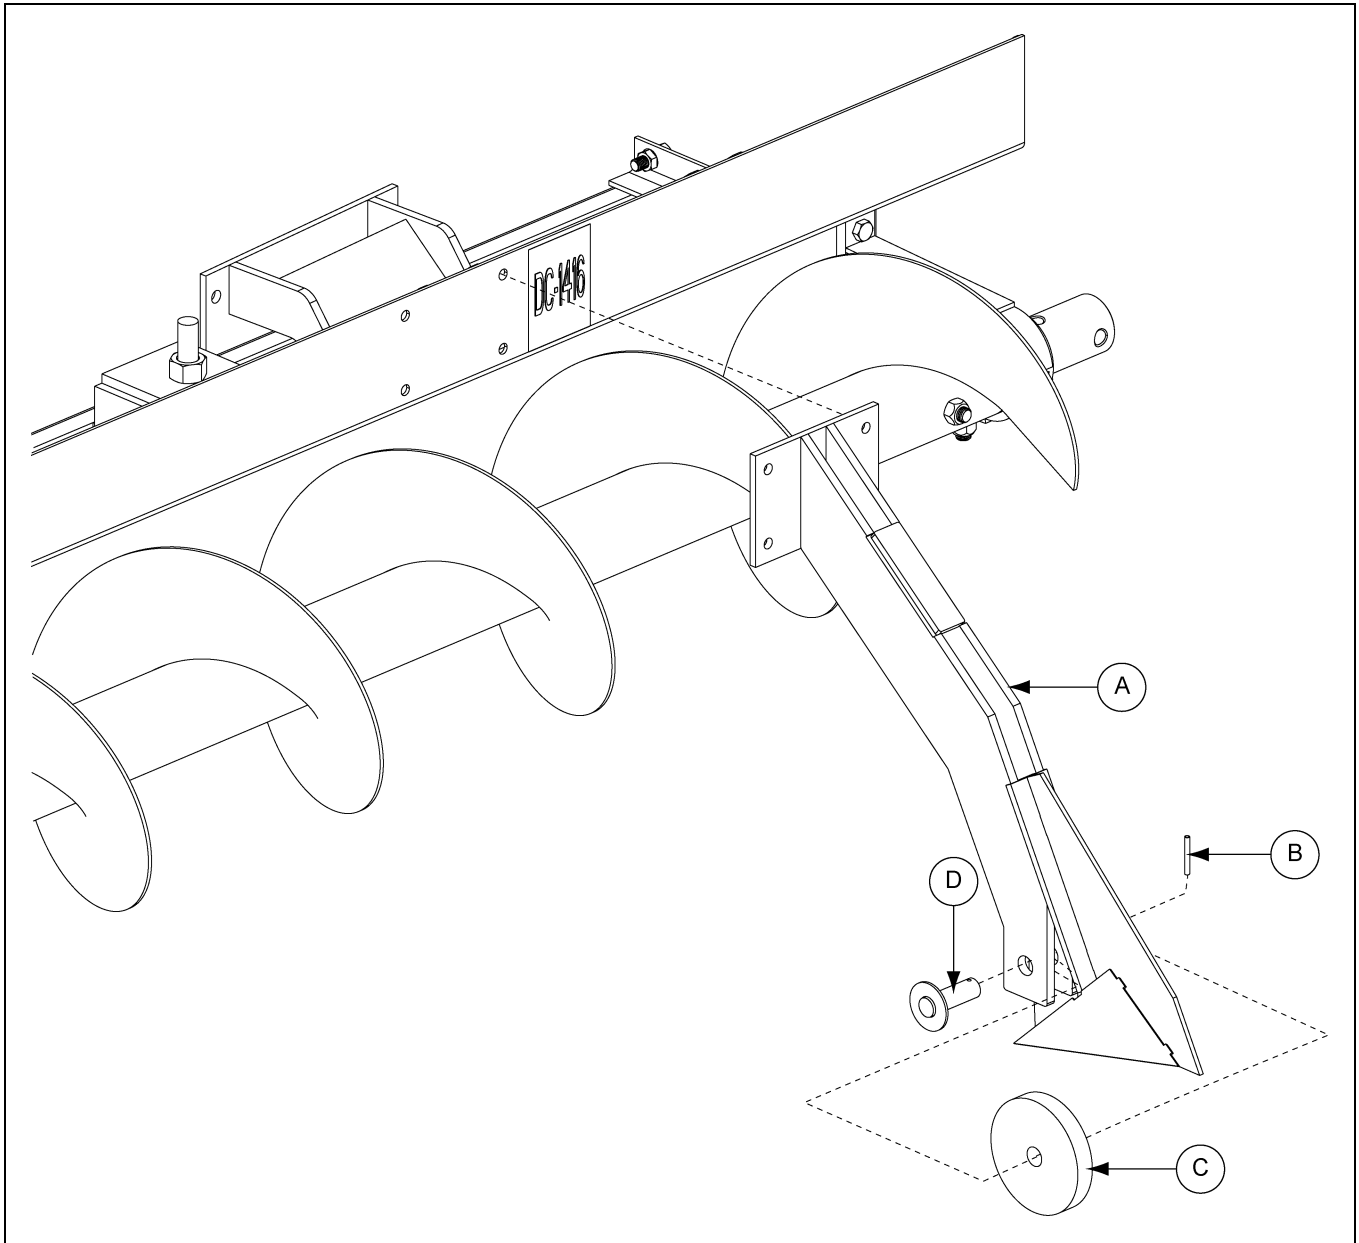

Figure 7AI
1. Assemble front wheel (C) to strut (A) using pin (D) and roll pin (B). *(See Figure 7AI.)*